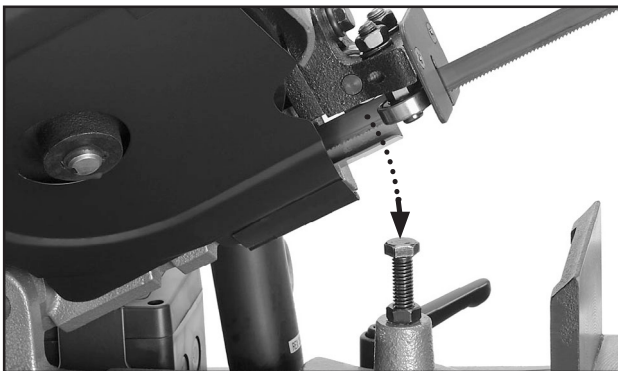

Figure 12. Feed stop bolt.
2. Adjust the feed stop bolt and jam nut with a 14mm wrench (**Figure 12**), so the bandsaw blade teeth are just below the table surface when the cut is complete.